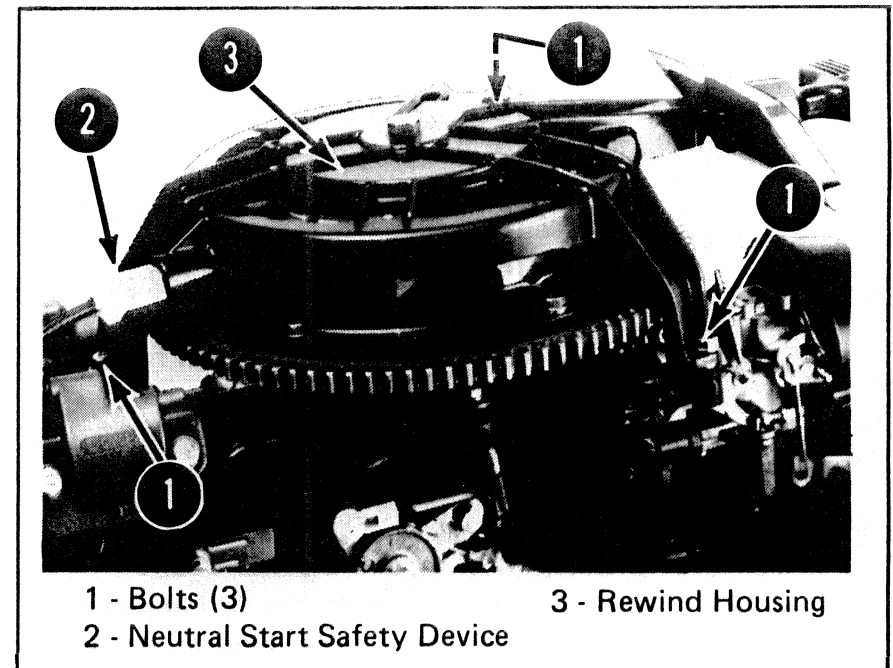

Figure 15. Emergency Starting (25 Model Shown)
3. Disconnect neutral start safety device from rewind assembly. (Figure 15)